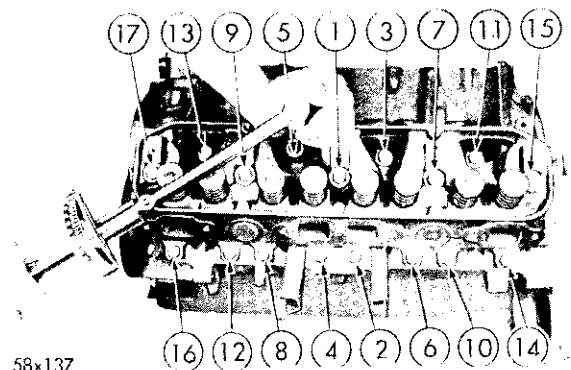

Fig. 10—Cylinder Head Tightening Sequence
(3) Coat the new gaskets with a suitable sealer, Number 1122893. Install the gaskets and cylinder heads.
(4) Install cylinder head bolts. Starting at top center, tighten all cylinder head bolts to 70 foot-pounds torque in sequence as shown in Figure 10.